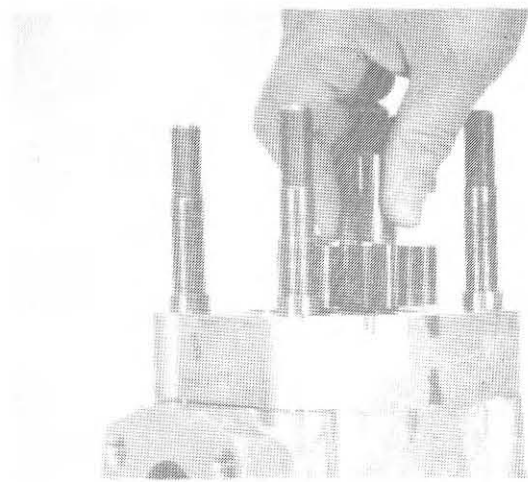

FIG. 7
9. Slide idler gear (19) and drive gear (18) straight up and out of the gear plate. (Fig. 7)